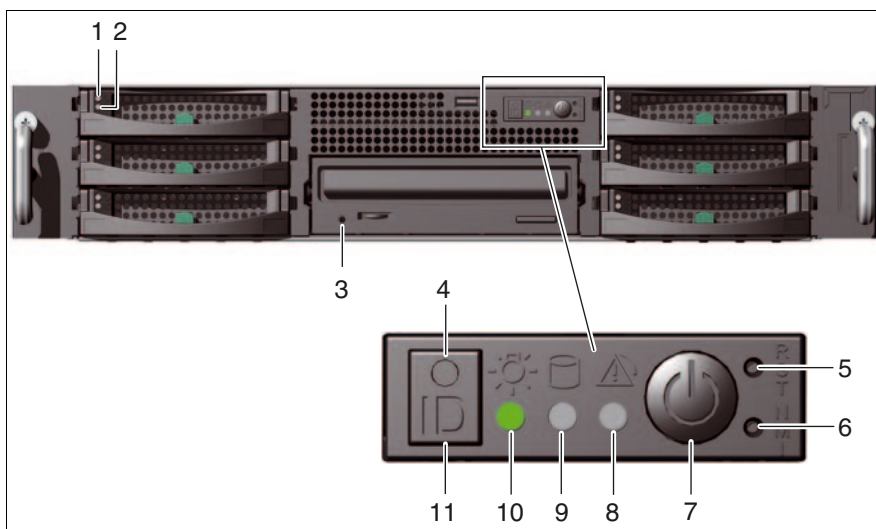

Figure 11: Controls and indicators on the front
The power-on indicator (item 10 in figure 11 on page 49) lights red.
- ▶ Press the On/Off button (position 7 in figure 11 on page 49).
The power-on indicator lights up green (item 10 in figure 11 on page 49).
Power-on indicator (position 10 in figure 11 on page 49) lights green.